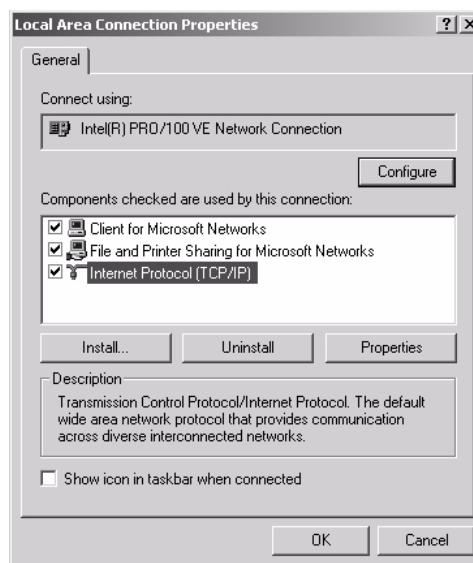

Figure 71: Local Area Connection Properties - Windows 2000
3. Right-click the **Local Area Connection** icon that represents the network adapter connecting the computer to the satellite router, and select **Properties**. The **Local Area Connections Properties** window appears as shown in Figure 71.